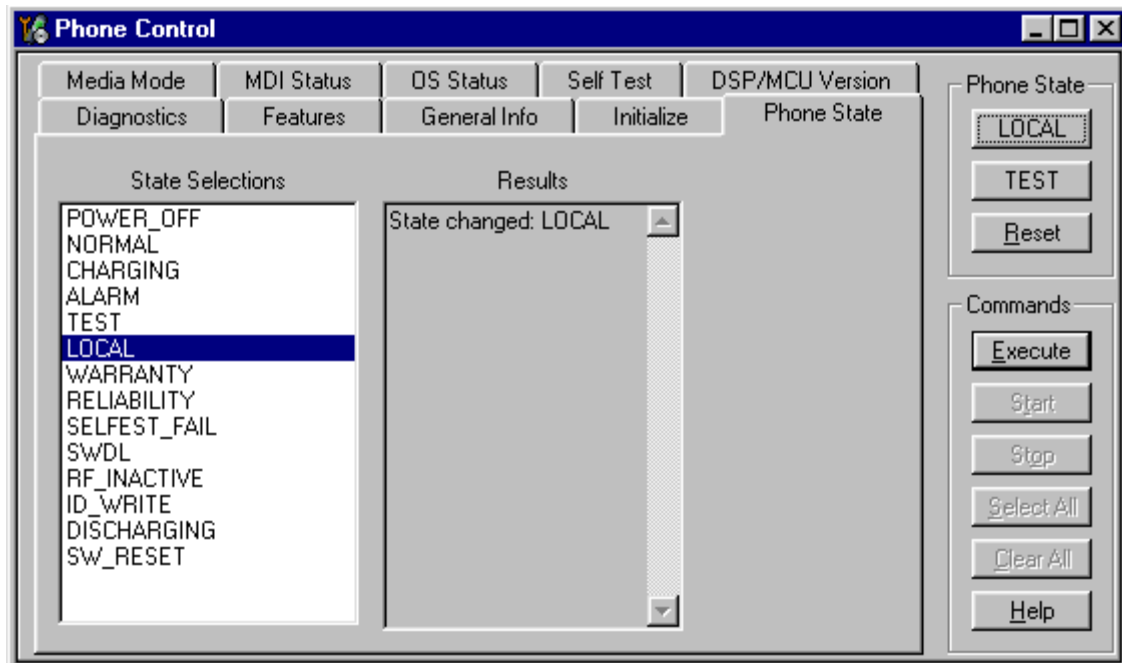

Figure 9: Phone Control dialog box
4. On the **Phone Control** dialog box, click the **LOCAL** button in the **Phone State** area to put the mobile terminal into Local Mode. (See Figure 9 on page 16.)
The **Phone Control** dialog box appears. (See Figure 9 on page 16.)